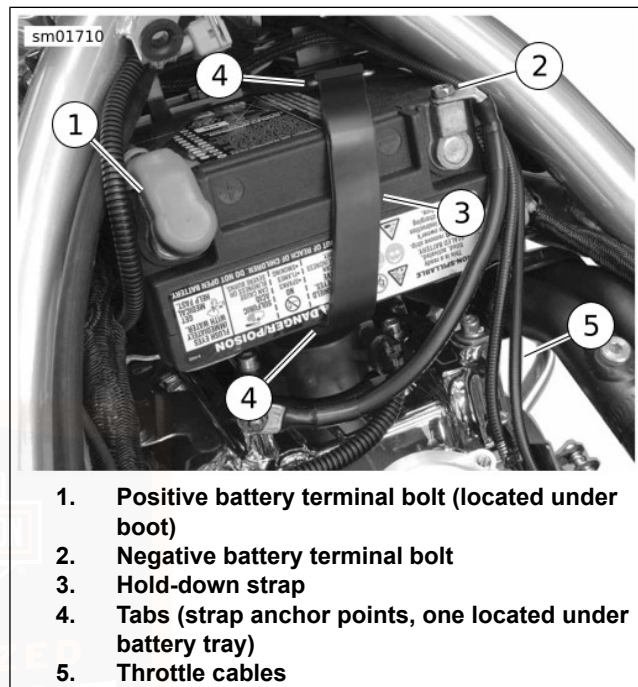

Figure 59. Battery Installed
7. See Figure 59. Remove the battery negative cable from the negative (-) terminal of the battery.
2. See Figure 59. Slide the fully charged battery into battery caddy, terminal side up, negative (-) battery terminal toward the right side of the motorcycle.
3. See Figure 59. Verify proper routing of throttle cable.